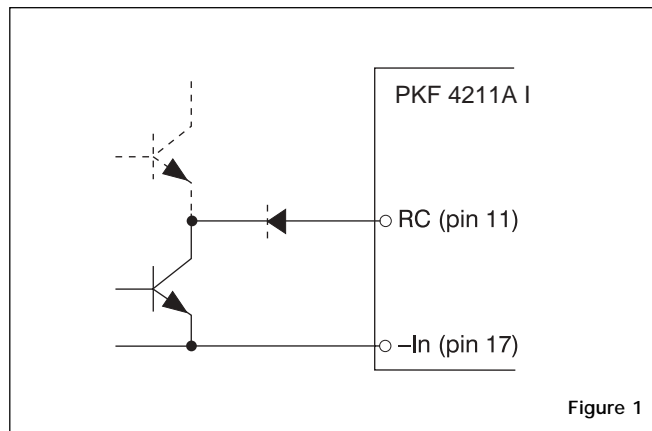

Figure 1
Turn-on or turn-off can be realized by using the RC-pin. If pin 11 is connected to pin 17 the power modules turns off. Normal operation is achieved if pin 11 is open (NC). To ensure safe turn-off the voltage difference between pin 11 and 17 shall be less than 1.0V. RC is an open collector compatible output with a sink capacity of 1mA (see fig. 1).